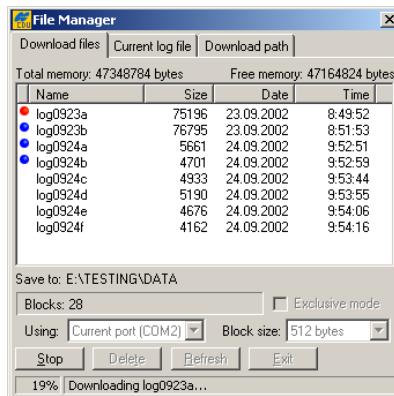

Figure 5-12. Download Files – Status Indicators
6. Click the **Download** button. During the download, status indicators display next to each file (Figure 5-12).